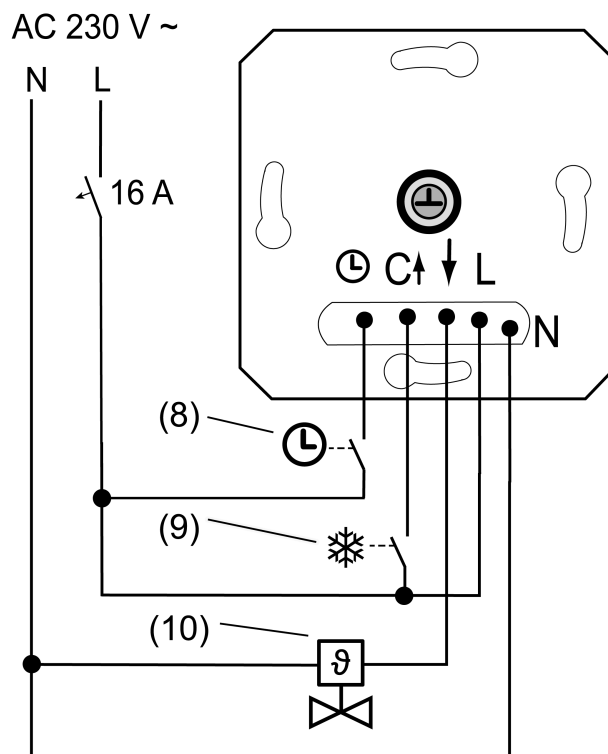
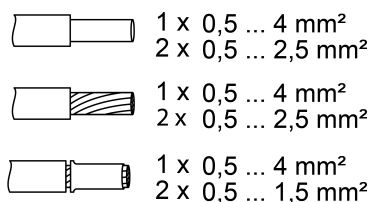

Figure 2: Connection example of the insert
Figure 3: Clampable conductor cross-section
- Connect electrothermal valve drive (10) to insert (1) according to connection diagram (Figure 2). Observe the conductor cross-sections (Figure 3).
- Optionally, connect the ECO operation input \ominus via a switching contact of a central clock (8).